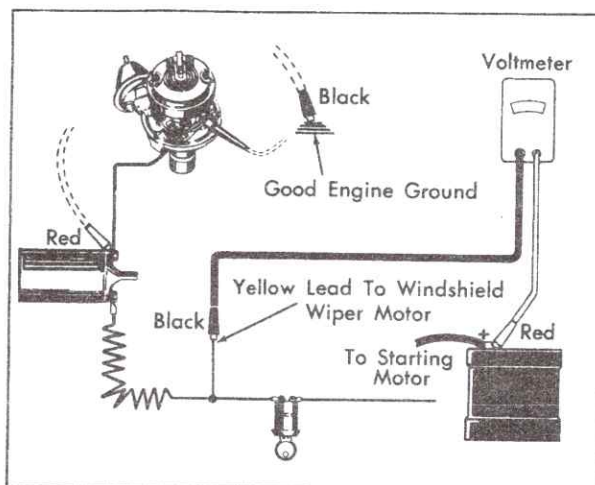

Fig. 6-25 Ignition Primary Circuit Resistance Test
2. Connect test leads as shown in Fig. 6-25.
9. Remove voltmeter leads and place them across the primary wires from coil to distributor as shown by dotted leads in Fig. 6-25. Voltmeter should read less than .1 volt.